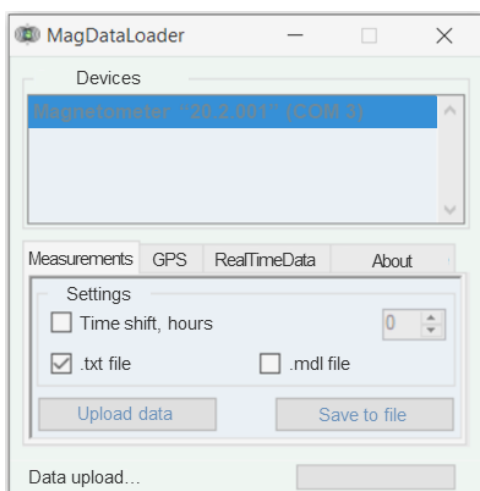

Figure 45 – Data upload
5. Click the “Upload Data” button, then the program will upload the data (Figure 45) and a dialog box will appear in which you should specify the name and location of the saved file.